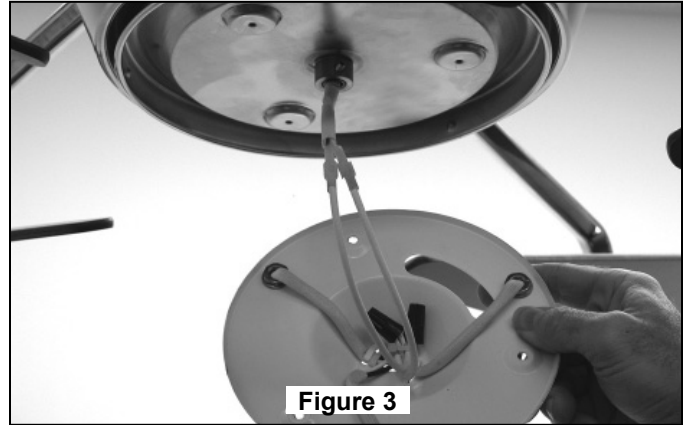

Figure 3
6. Position the wood blade with the threaded posts showing through the holes of the blade arm. With a  $\frac{3}{8}$ " ratchet wrench, tighten locking hex-nuts and flat washers. Do not overtighten. (Figure 3)
4. Carefully lift the fan and seat the downrod/hanger ball assembly on the hanger bracket that was just attached to the ceiling joist. Be sure the groove in the ball is lined up with tab on the hanger bracket. (Figure 3)
5. Attach the safety cable to ceiling support cable. Slide cable clamp onto safety cable (from fan). Place the end of cable through the loop of ceiling support cable. Pull as much cable through loop as possible. Feed end of cable into clamp hole and firmly tighten screw (Figure 3). Cut off excess safety cable.
- Connect wires as indicated: (Figure 3)
**1. Operating & Using Remote Transmitter (Figure 3):** Install 9 volt battery (If not using for long periods of time, remove battery to prevent damage to transmitter). Store the transmitter away from excess heat or humidity.
3. Securely attach plugs from motor to sockets on Downlight Socket Plate Assembly (Figure 3)